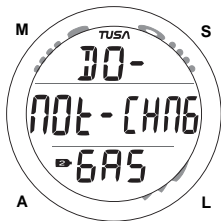

Fig. 81 - DO NOT CHANGE GAS ALARM
If the theoretical amount of oxygen accumulated reaches the limit for a single exposure, or 24 hour period (300 OTU = 100%), the graphic O2 replaces NDC time and the full O2BG and Up Arrow icon will be displayed flashing (Fig. 81).
**△ NOTE: If a Switch to a new Gas mix would expose the diver to a prohibitive PO2 level of 1.60 ATA or greater, the Audible Alarm will sound and the graphics DO > NOT CHNG GAS will flash on the display (Fig. 81) until the Audible is silenced.**